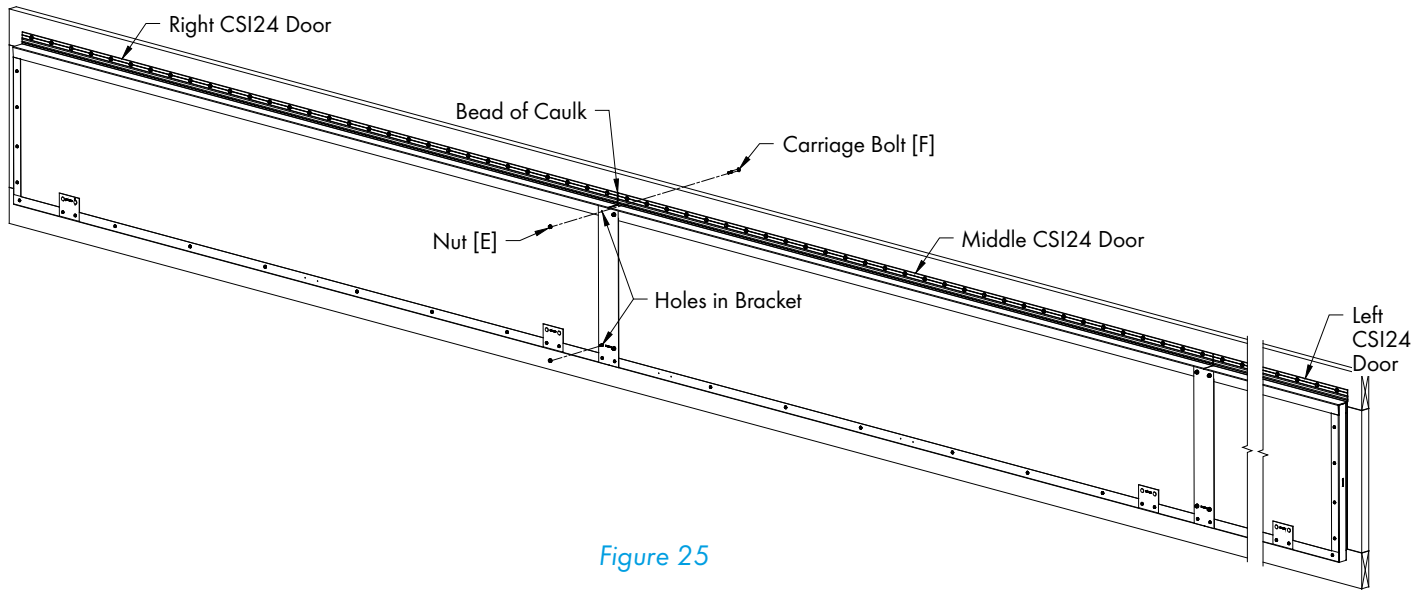

Figure 25
Secure Middle and Right Doors together with (2) Carriage Bolts [F] and Nuts [E] through (2) holes in Inside and Outside Door Supports. See Figure 25. Apply a bead of caulk to the joint between doors at the hinge and the top of the doors.